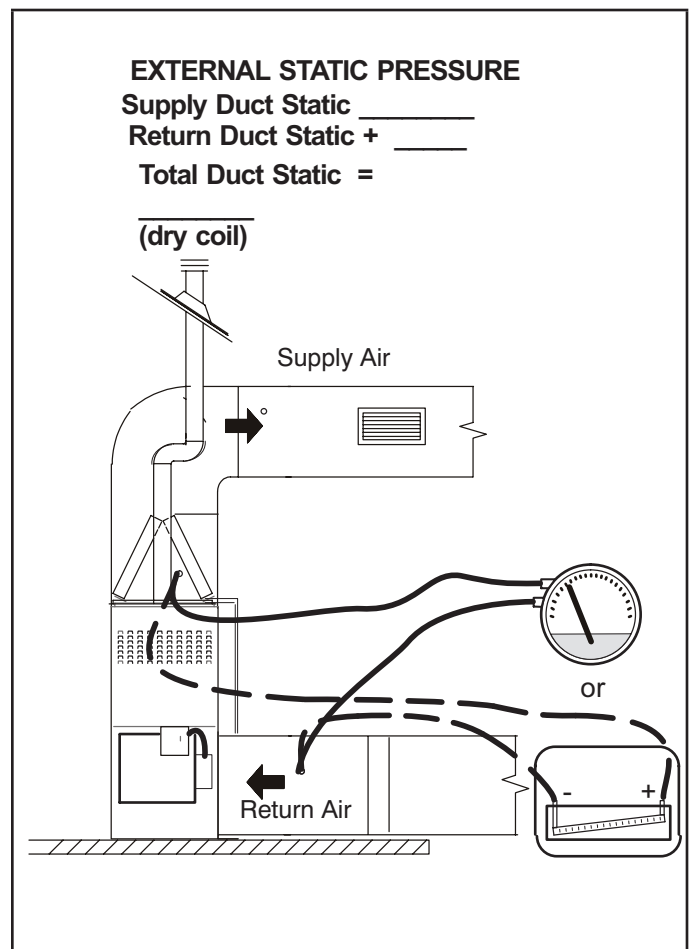

FIGURE 25
- 1 - Tap locations shown in FIGURE 25.